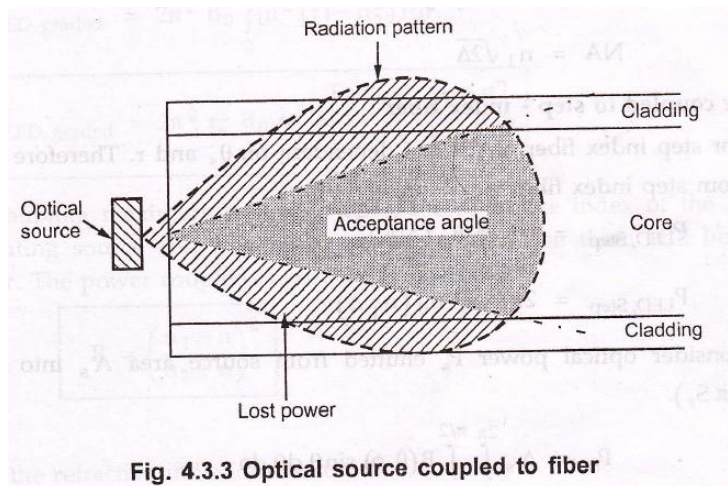

Fig. 4.3.3 Optical source coupled to fiber
- To calculate power coupling into the fiber, consider an optical source launched into the fiber as shown in Fig. 4.3.3.